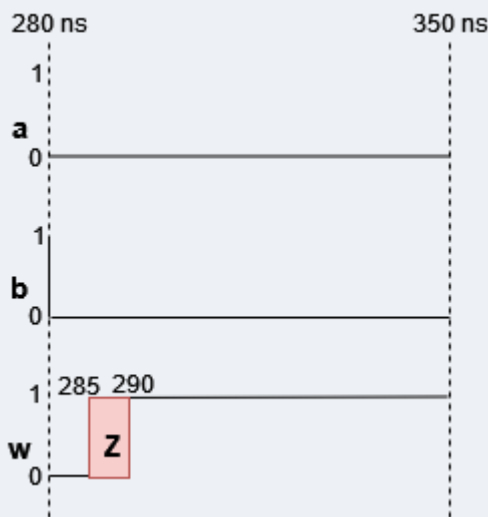

Figure 1.4
- **280 to 350 ns:** As “b” turns to 0, first pMOS propagates 1 to the next one; so, there’ll be two 5 ns delays which will sum up in order to propagating 1 to the output. Also, there is a 4 ns delay for nMOS transistors to propagating Z to the output. So, the output won’t change for 5 ns, and for the next 5 ns, we’ll get Z, after that the output will be 1 till end. (fig. 1.4)